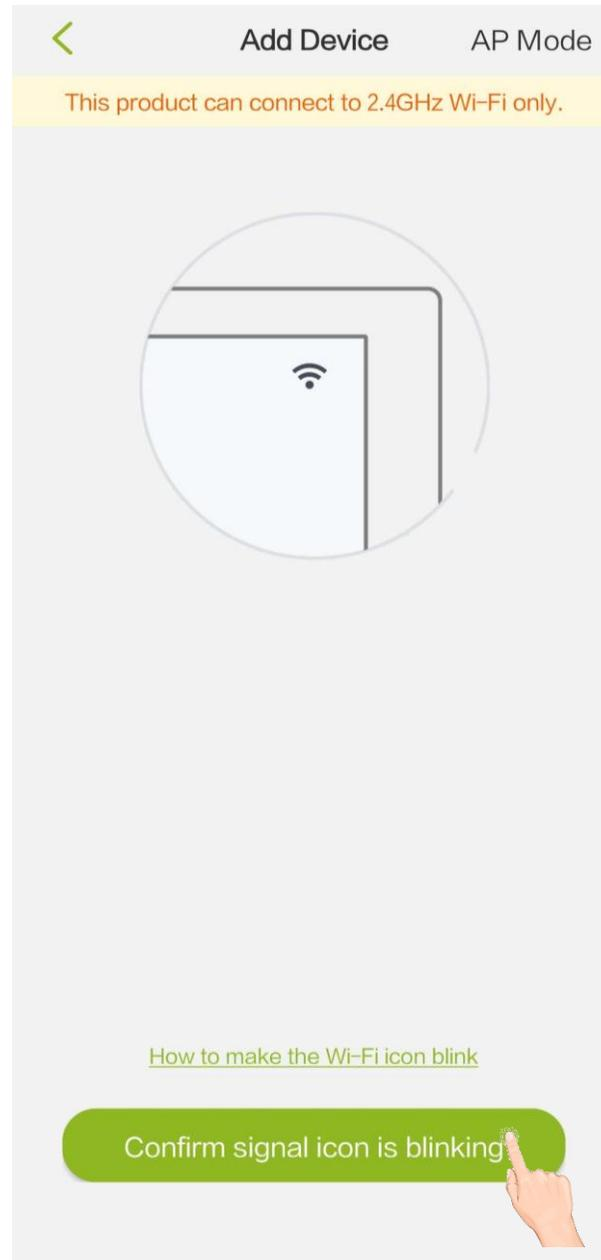

Fig. 2
- Touch **“Confirm signal icon is blinking”** (see Fig.2)